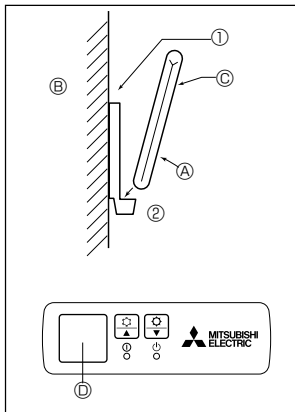
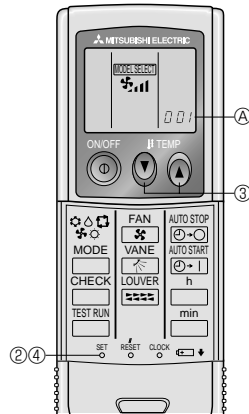

Fig. 6-5
Fig. 6-6
2) Installation method (Fig. 6-5)
- ① Attach the remote controller holder to the desired location using 2 tapping screws.
- ② Place the lower end of the controller into the holder.
3) Setting (Fig. 6-6)
- ① Insert batteries.
- ② Press the SET button with something sharp at the end. **MODEL SELECT** blinks and Model No. is lighted.
- ③ Press the temp \uparrow \downarrow buttons to set the Model No.